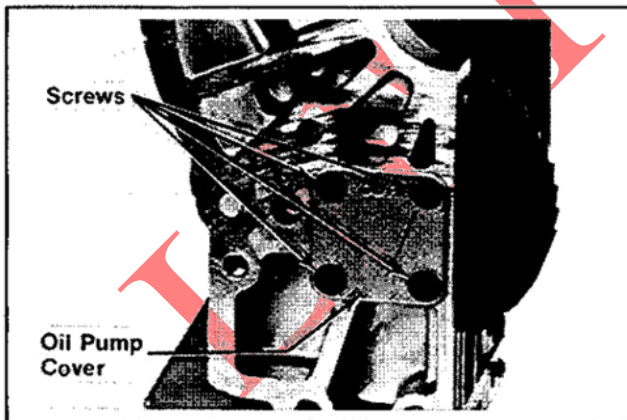

Figure 9-44. Removing Oil Pump Cover.
1. Remove the self-tapping screws, cover, and pump rotors. Refer to Figures 9-44 and 9-45.